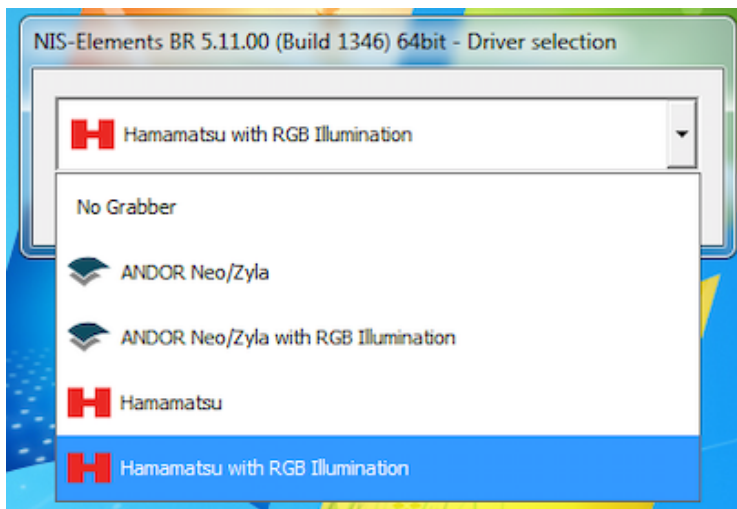

Figure 2. Camera driver section
1. Run NIS Elements. According to which camera is being used, select Hamamatsu with RGB Illumination or Andor Neo/ Zyla with RGB Illumination in the driver selection dialog box (Figure 2).